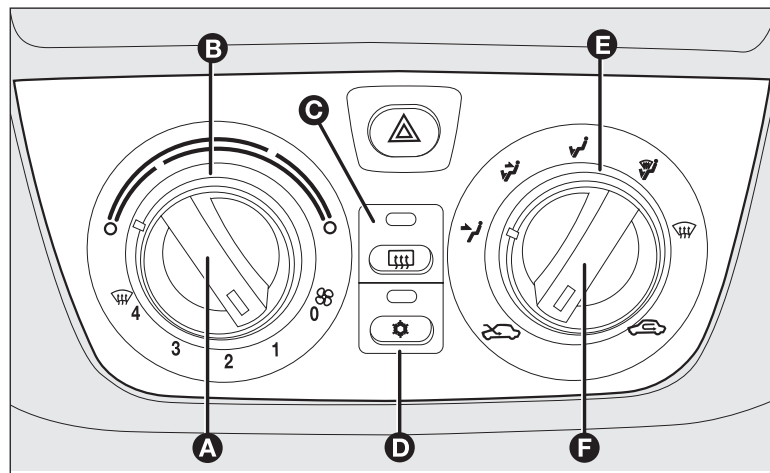

fig. 59
Turn the ring **B-fig. 59** (indicator pointing to the red sector) rightwards to turn the temperature up or leftwards to turn it down;
- ☐ turn the ring **B-fig. 59** to the blue sector;
Position the knob **F-fig. 59** to .
- ☐ turn the ring **B**-fig. 59 to the red sector;
- ☐ stop internal air recirculation by turning knob **F**-fig. 59 to .
Press button **C-fig. 59** to activate the function. The LED in the button will light up when the function is on.
- ☐ turn the ring **B-fig. 59** to the blue sector to select the temperature;
- ☐ stop internal air recirculation by turning knob **F-fig. 59** to .